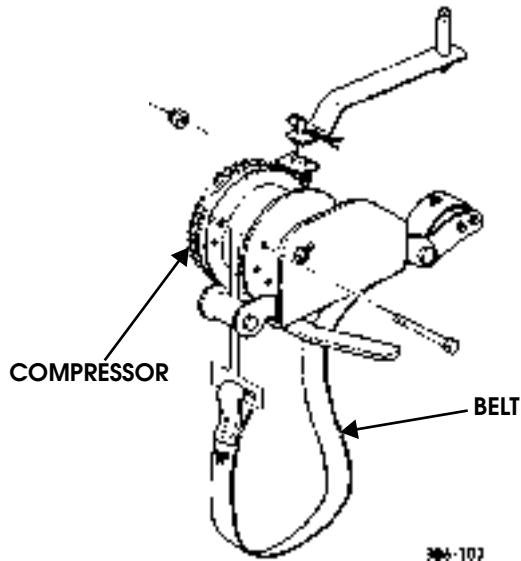

Figure 6-21: Runflat Compressor Belt Replacement
1. Install belt on compressor with bolt and locknut (Figure 6-21).